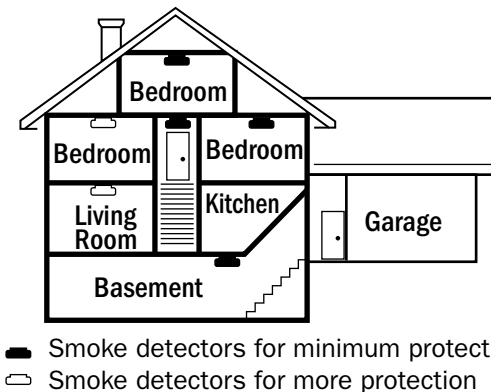

Figure 3: recommended smoke detector protection for a multi-level residence.
- Put a smoke detector on every level of a multi-level residence. See figure 3.